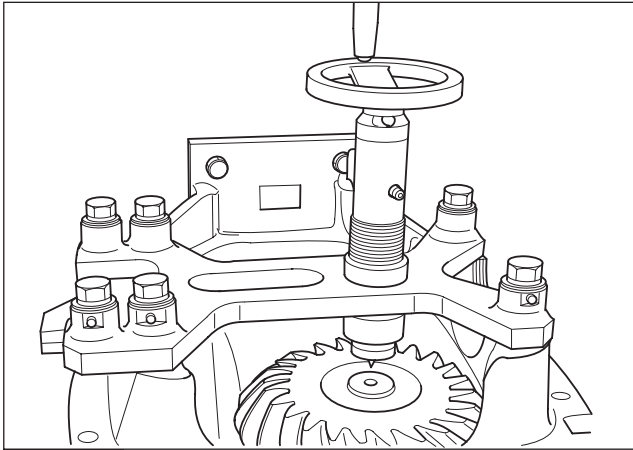

Fig. 2.52
9. Fit pinion setting tool CT15 onto carrier to hold pinion in place whilst carrier is turned over. (Fig. 2.52)